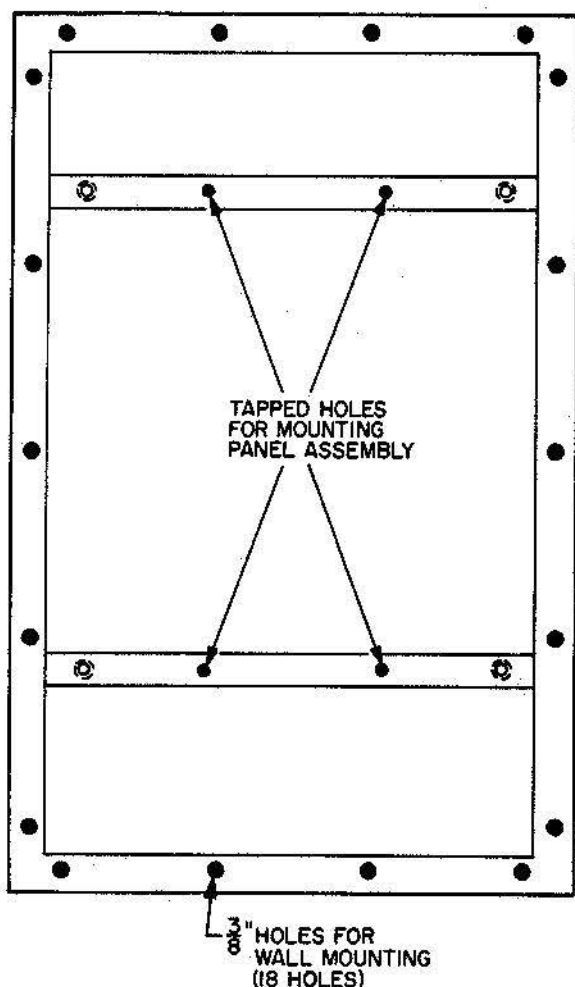

Figure 1. Hole Location Surface Mounting Enclosure 424102.
- (1) Procure surface mounted enclosure (424102), Figure 1.
- (2) Place the enclosure in position on a wall with the lower edge of the enclosure 47 inches above the surface upon which the user will stand.
- (3) Extend the station wires and #14 AWG ground wire in through the rear of the enclosure. The wire extending into the enclosure should be at least eight inches long.
- (4) Fasten the enclosure to the wall using appropriate fasteners, referring to Figure 1 for mounting hole location.